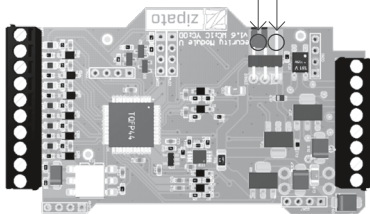

Figure 1 - Jumper cap positions
- 6 locate the jumper cap on the top board of the module and adjust it accordingly (see Figure 1)